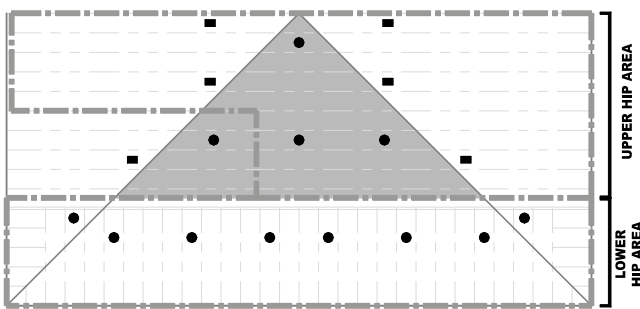

FIGURE 21A
- Calculate the 8 most demanding contiguous sprinklers along the eave. This may include sprinklers on both sides of the hip line as shown. See Figure 21A.
If there are 4 sprinklers or less in the shaded area (Figure 21A):